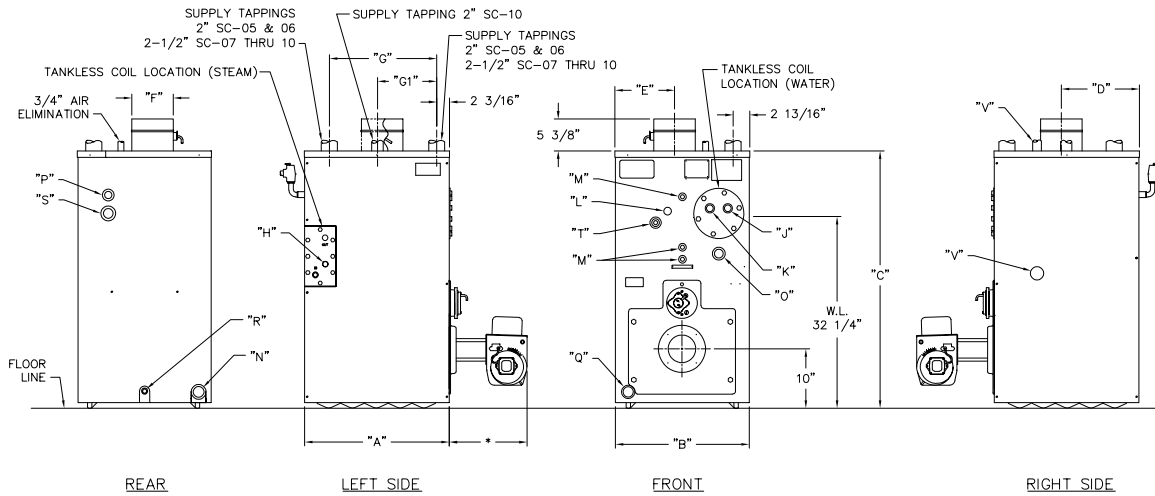

Figure 11.1
3. Connect a skim valve off the 1-1/2 NPT skim tapping on rear of boiler. See Figure 11.1 for skim tapping location. Run a 1-1/2 NPT drain line off skim valve to a point of safe discharge.
5. Use common washing soda, such as Arm and Hammer Super Washing Soda. Mix 1/2 pound of soda with water in a 10 quart pail. Mix a proportion of one (1) pound of washing soda for each 800 square feet EDR net boiler rating. Pour the mixture into the boiler through the safety relief valve tapping.